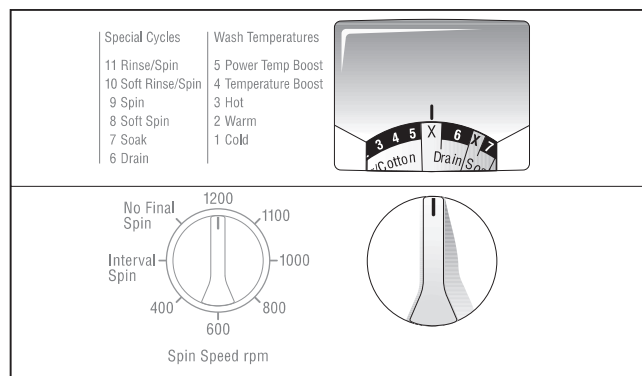

Figure 16.
- Set the cycle selector to any of the “X” settings, see Figure 16. The indicator light above the “START” button will begin to flash.
- Set the cycle selector to a SPIN (8) or SOFT SPIN (9) or DRAIN (6) cycle.